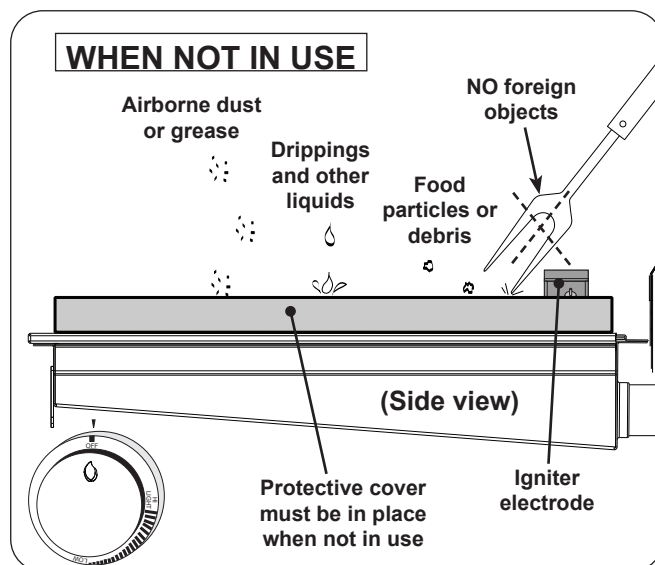

Fig. 32-2 Infrared burner - WHEN NOT IN USE
- When not in use, **always** cover the infrared burner with the stainless-steel cover. This protects the burner from drippings (from other cooking), water, airborne particles, and foreign objects (Fig. 32-2).
- Do not strike or scrape the ceramic portion of the burner as it may chip, crack, or break (Fig. 32-2).